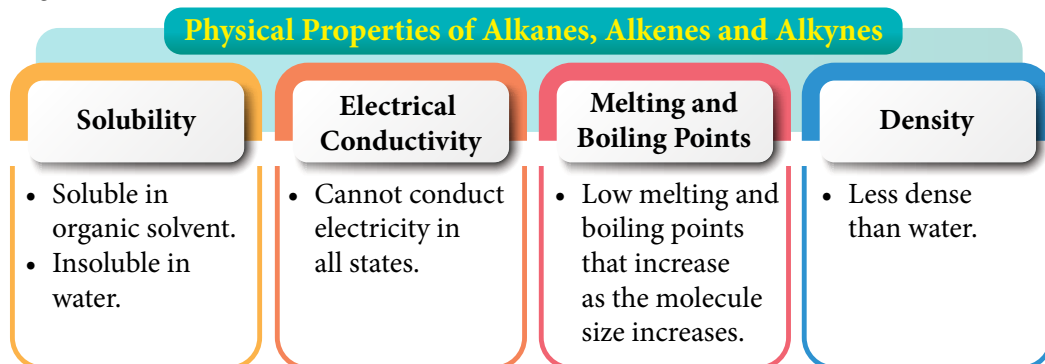

Figure 2.6 Physical properties of alkanes, alkenes and alkynes
- Alkanes, alkenes and alkynes have physical properties of covalent compounds as shown in Figure 2.6.